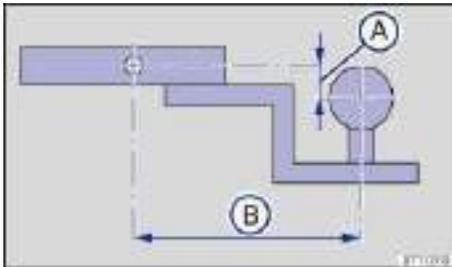

Fig. 101 Dimensions of the ball mount support.
⇒ **fig. 101 (A)**, and the pin-to-ball distance **(B)**.